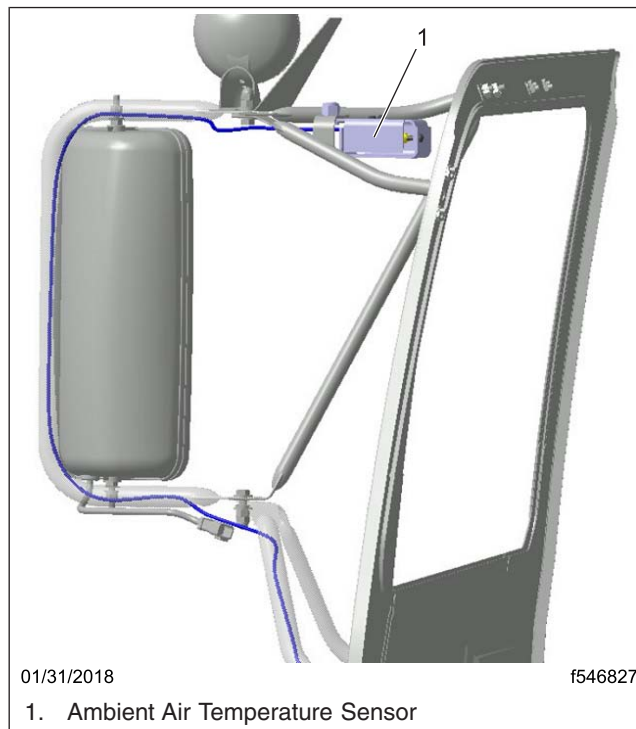

Fig. 1, Vehicle Door and Mirror Assembly
3. Remove the two screws from the sensor cover, and remove the cover. See Fig. 1.